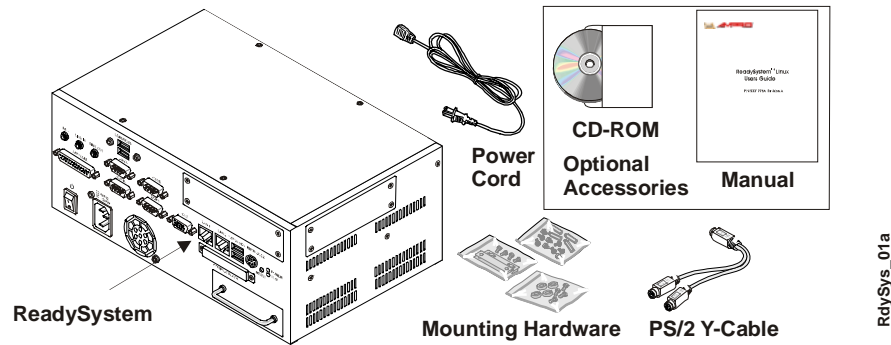

Figure 1-1. ReadySystem Accessories
Refer to the Contents List for a list of the items in the shipping container of the first shipment of the ReadySystem, or the first box of multiple boxes. See Figure 1-1.
1) Open shipping box	<ul style="list-style-type: none"> • Locate the ReadySystem Contents List. See Figure 1-1. • Unpack the contents of the shipping box